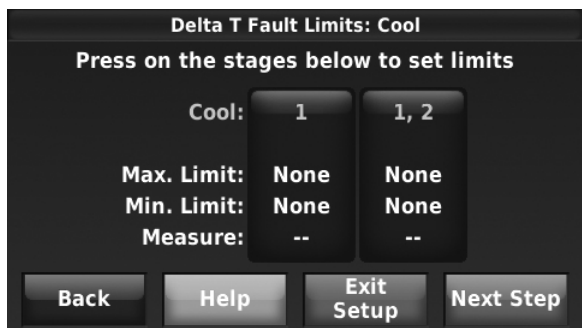

Fig. 158.
1. Press Stage 1 to set the limits and run time (see Fig. 158). Use the saved test data located in the upper right corner of the screen to set the Delta T Minimum and Maximum Limits and the Run Time (see Fig. 159).